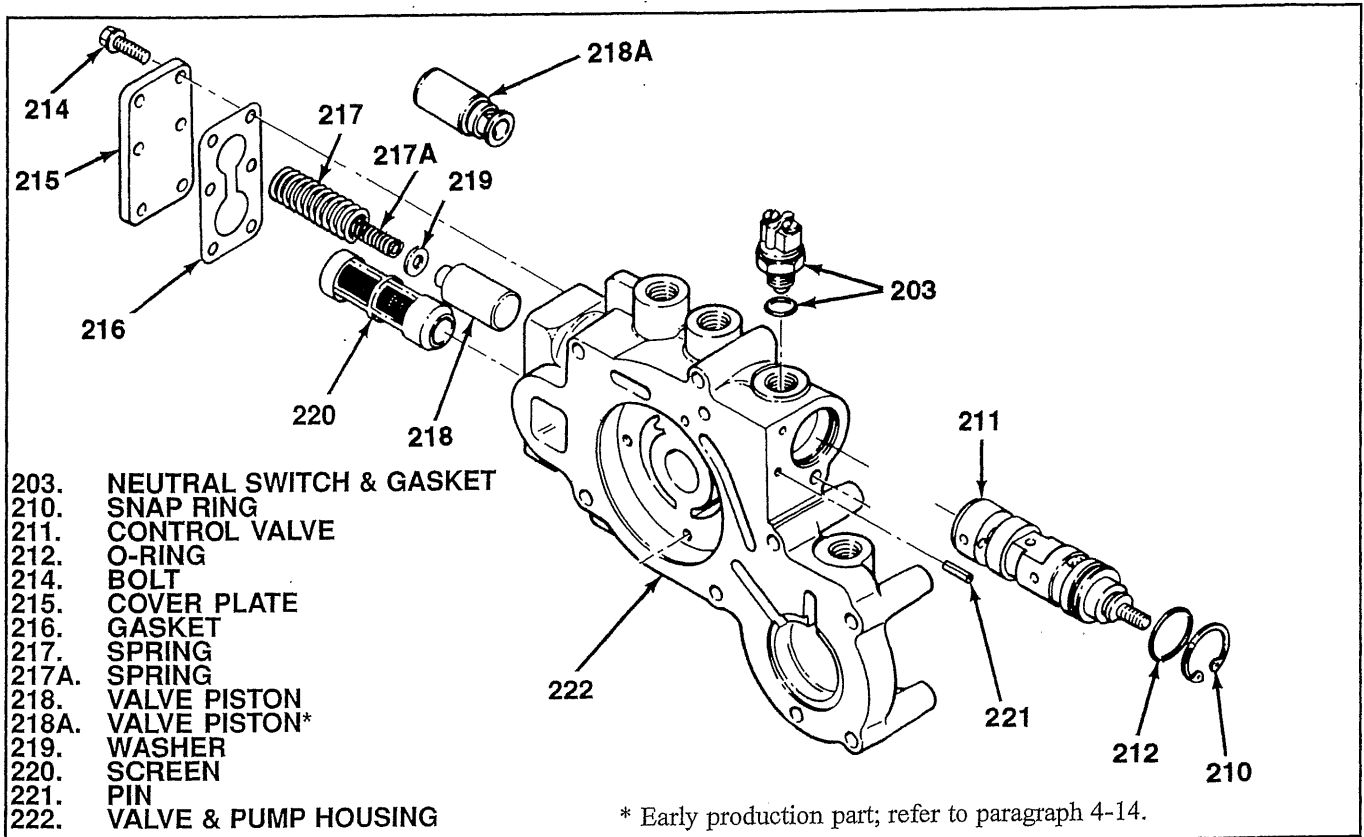
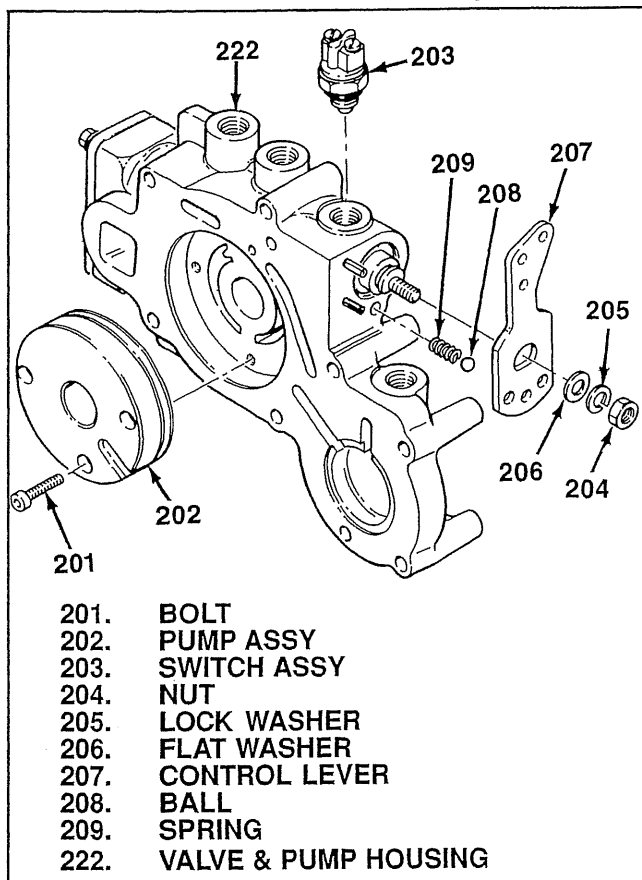

Figure 5-9. Filter, Piston and Control Valve
Figure 5-10. Control Lever, Switch and Pump
**5-13. SCREEN, PISTON AND CONTROL VALVE AND PUMP ASSEMBLY.** Assemble as follows (see figure 5-9):
1. If removed, press in new pins (221).
2. Install screen assembly (220), chamfered end first, into valve and pump housing (222).
- a. If valve piston (218) is used, install piston (218)—large end first—washer (219) and springs (217 and 217A) in valve and pump housing (222).
- b. If valve piston 218A is used, install small end first. Install spring (217). It is necessary to hold spring(s) (217A and/or 217) compressed to start screws.
4. Install gasket (216) and cover plate (215) and attach with six bolts (214). Torque bolts to 4-5 lb-ft (5-7 Nm).
5. Install o-ring (212) in groove on control valve (211) using petroleum jelly and install control valve in valve housing (222) with detent socket toward top. Install snap ring (210).
**5-14. CONTROL LEVER, SWITCH AND PUMP ASSEMBLY.** With control valve installed in valve and pump housing, proceed as follows (see figure 5-10):
1. Temporarily install transmission shift lever (207) on control valve previously installed, aligning flats. Turn lever and valve up to installed position as shown in figure 5-10. Remove control lever.
2. Install spring (209), ball (208) and shift lever (207). Holding control lever in place, as shown in illustration 5-10, install flat washer (206), lock washer (205) and nut (204). Holding lever, torque nut to 14-16 lb-ft (19-22 Nm).
3. Install switch assembly (203) Torque switch assembly to 20-25 lb-ft (27-34 Nm).
4. Position pump assembly (202) in valve and pump housing assembly (222) with counterbored holes for bolt head out. Align all three bolt holes and install bolts (201). Torque bolts to 6-8 lb-ft (8-11 Nm).